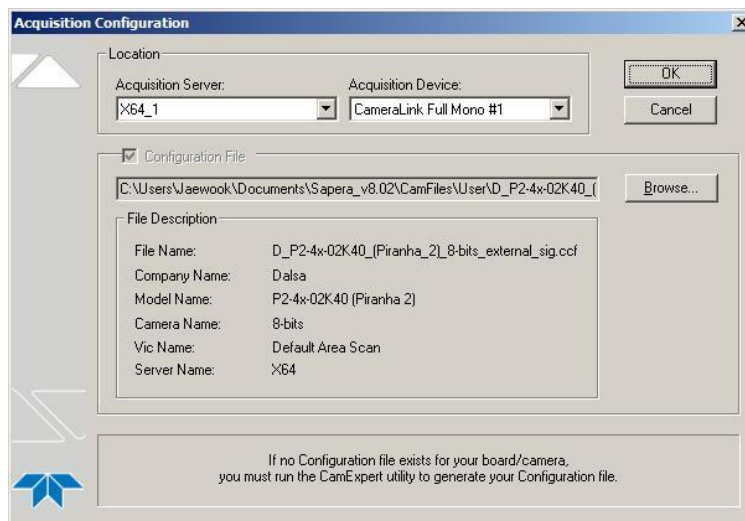

Figure 7: Select a configuration file (ccf file). See text for details.
- vii. Close the Spera CamExpert and launch the Data Capture GUI by clicking Image Capture System (Fig. 3-I). Select the configuration file for data capturing (at ../sapera_v.8.02/camFiles/User/D_P2-4X-02K40_(Piranha_2)_8-bits_external_sig.ccf) in the configuration window (Fig. 7).